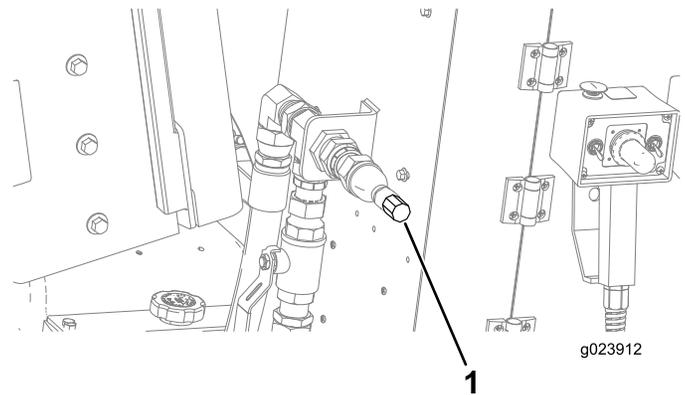

Figure 133
5. Connect the spray-hose attachment to the fitting (Figure 133).